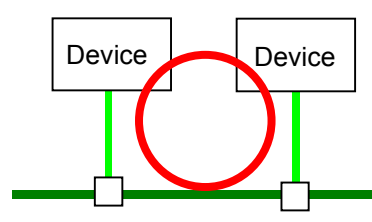

Fig.3
- 1) Use one T-connector per device (see Fig.3).